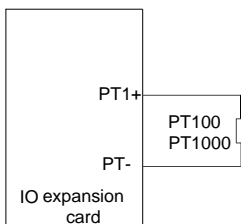

Figure 5-12 PT100/PT1000 measuring temperature through an expansion card
- Step 1 Connect the expansion card EC-IO502-00 to PT100/PT1000 according to Figure 5-12.